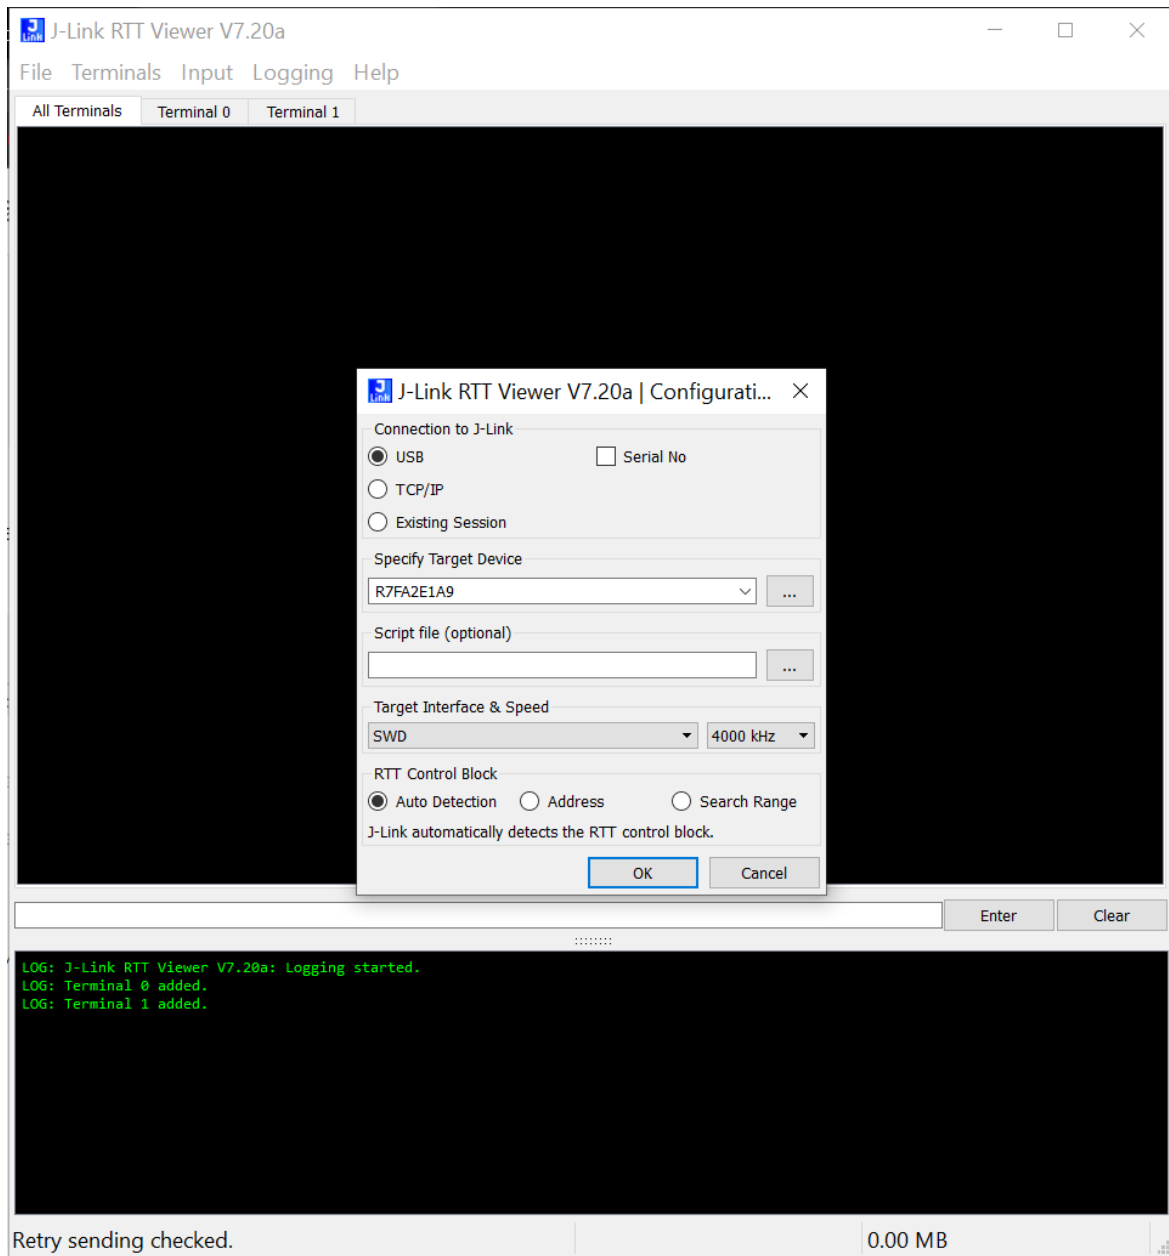

Figure 9. J-Link RTT Viewer Window
- Figure 9. J-Link RTT Viewer Window8